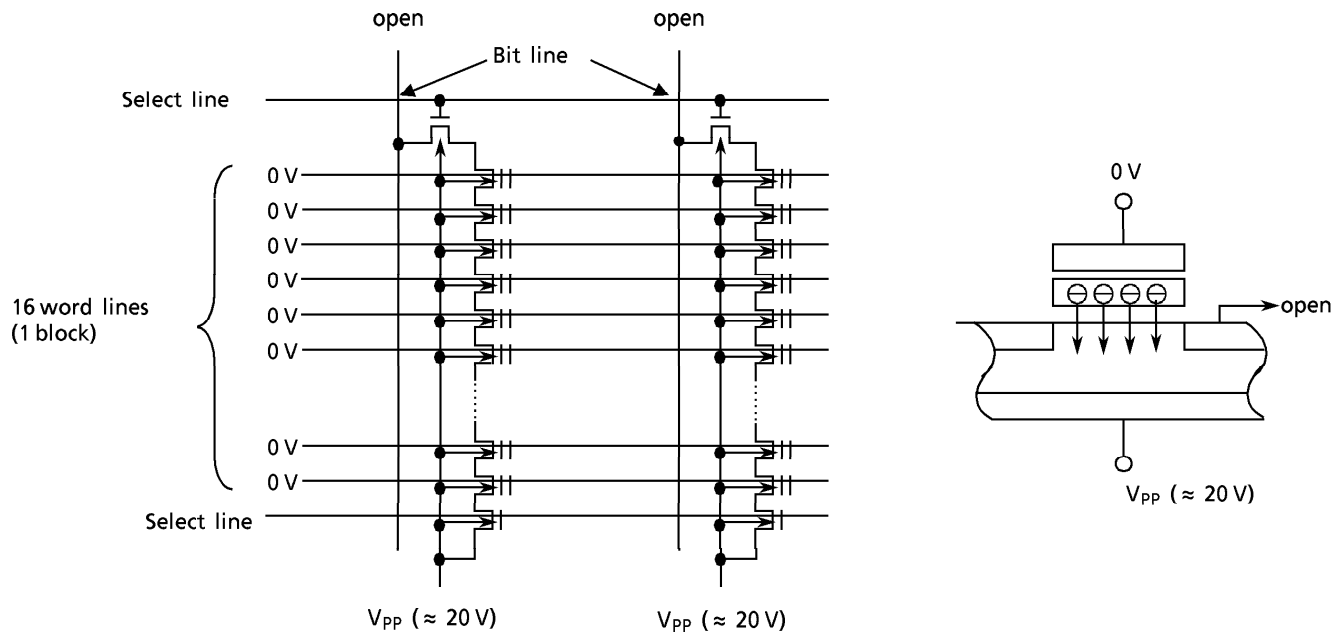

Figure 18. TC5816 Erase Device Physics
- (1) A high level is applied to Select line 1 and a low level is applied to Select line 2 so that the device is connected to the Bit line and disconnected from the ground line.
- (2) V_{pp} ($\approx 20\text{ V}$) is applied to the selected word line and an inhibit voltage of V_{PI} ($\approx 10\text{ V}$) is applied to the unselected word lines.
- (3) 0 volts is applied to the bit line tied to cell transistor TR1 and the inhibit voltage $VDPI$ ($\approx 10\text{ V}$) is applied to the bit line tied to TR2.
- (4) V_{pp} is applied between the control gate and the channel in TR1, as shown in Figure 18, which causes electrons to be injected from the channel to the floating gate by a tunneling mechanism.
- (5) The injected electrons are captured in the floating gate surrounded by an oxide layer and will remain, even after power is cut off, until they are removed by an Erase operation.
- (6) Although 20 volts is applied to the control gate of TR2, the voltage difference between the control gate and the channel is only 10 V because the voltage of the channel is 10 V. Therefore, tunneling does not take place (i.e. the electron is not injected into the floating gate.)
- (7) Tunneling does not take place in the unselected pages because of the 10 V (V_{PI}) applied to the unselected word lines which makes the voltage difference between the control gate and channel only 10 volts.
Figure 18 shows the NAND memory cell level details of the Erase mechanism. The Erase operation is used to turn the "0" (programmed) cells back to "1" in a block. The captured electrons are pulled out from the floating gate to the substrate by a tunneling mechanism.